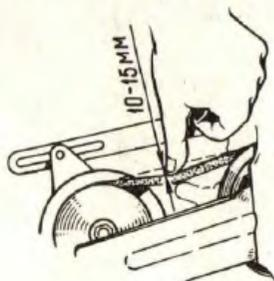

Fig. 16. Checking Fan Belt Tension
4. Check fan belt tension at regular intervals (Fig.16). Fan deflection should be 10-15 mm.